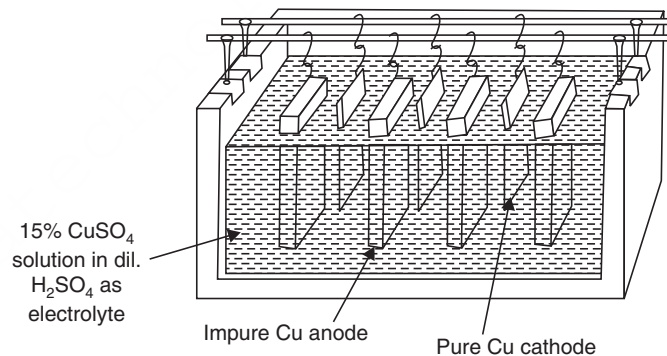

Fig. 14.13 Electrolytic refining of copper.
2. **Electro-refining.** This method is widely used. Usually an electrolytic cell is set up using thin sheets of pure metal as the cathode and comparatively thick impure metal slag as anode. The electrolyte used is an aqueous solution of a suitable salt. During electrolysis, pure metal from the electrolyte gets deposited on the cathode and the equivalent amount of metal from the anode passes into the solution. The impurities either remain in solution or are deposited down the anode. This deposit is known as **anode mud**. Sometimes some valuable metals are recovered from anode mud. A typical example of electrolytic refining is of copper (Fig. 14.13).
**Powder metallurgy** (Fig. 14.13) is a technique or operation or process to produce metallic or alloy articles. In this technique, the metal powders or alloy constituents are compacted in a die with melting or no melting followed by sintering. The simultaneous method of compacting and sintering is called *pressure sintering*.